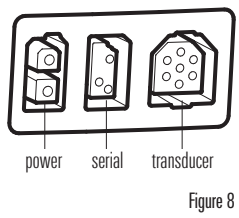

Figure 8
- Matching the cable plugs to the shape and orientation of the sockets, insert the transducer and power cables into the correct ports on the control head (Figure 8).